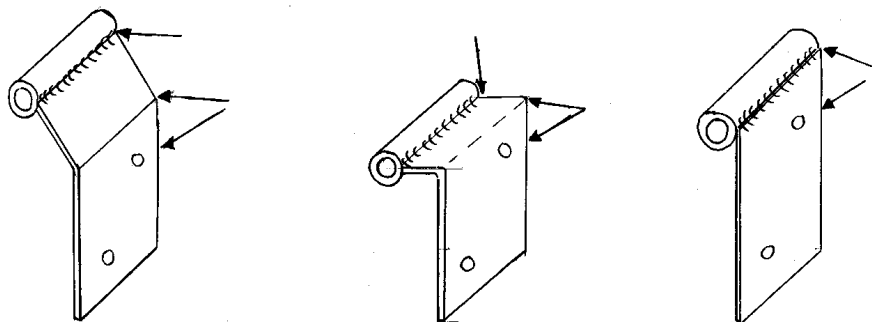

Fig 1. Potential crack areas of the latches
- Inspect all canopy latches which hold the lock and hinge sleeves for cracks at mounting bolt holes and at the adjustment bends of the latch as shown in figure 1. (So far only the front latches were reported to have failed. Cracks have not been reported from the rear latches.). Make sure the mounting bolt holes are round. Some latches unpermissibly have been modified with enlarged holes to adjust the fit a new canopy. New canopies need to be installed with new latches only.